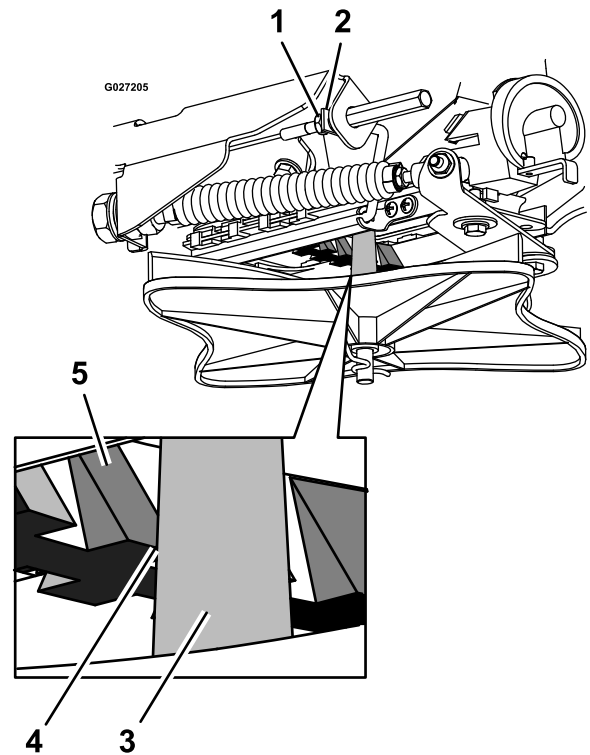

Figure 83
6. Pull the linkage rod until there is 1/8 inch (3.2 mm) gap between the ramp tooth and the impeller shaft (Figure 83).
7. Tighten the jam nut (Figure 83).
5. Loosen the jam nut at the end of the pattern control cable (Figure 83).